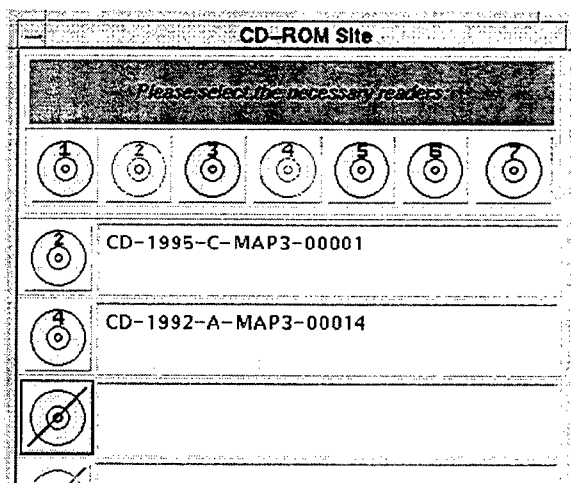

Fig. 78 — CD-ROM Site Window: deleted one CD reader from the list (#3)
- 5) If any of the listed CDs is not required, click (with middle mouse button) and drag that CD's number from the list to the Trash Can at the bottom of the window. Any CDs that were listed below the deleted CD will be bumped up to fill in the list (Fig. 78).